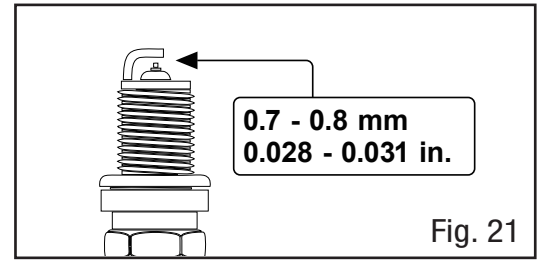

Fig. 21
6. Measure the plug gap with a spark plug gap gauge. The gap should be 0.7 - 0.8 mm (0.028 - 0.031 in) (Fig. 21). Carefully adjust the gap if necessary.